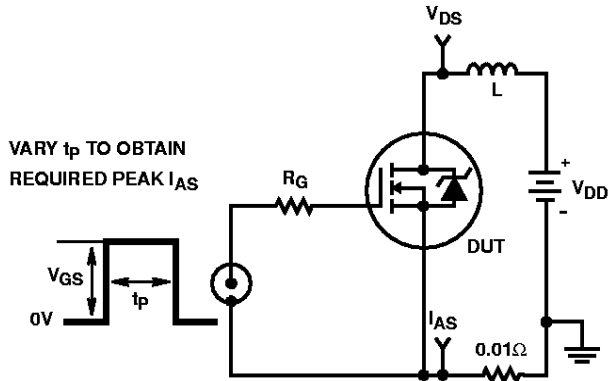

FIGURE 15. UNCLAMPED ENERGY TEST CIRCUIT
4.  $V_{DD} = 5\text{V}$ , starting  $T_J = 25^\circ\text{C}$ ,  $L = 2.3\text{mH}$ ,  $R_G = 25\Omega$ , peak  $I_{AS} = 3.5\text{A}$ . See Figures 15, 16.